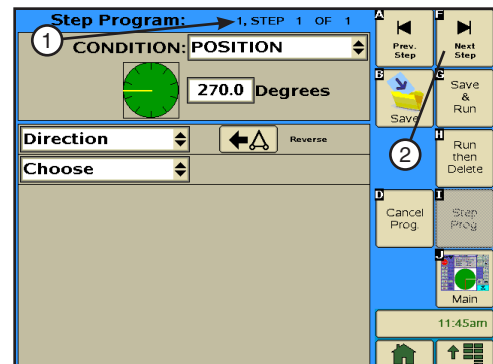

Figure 152-3 2. Step Program Identifier
5. Program the position condition for this step. Refer to Figure 152-3.